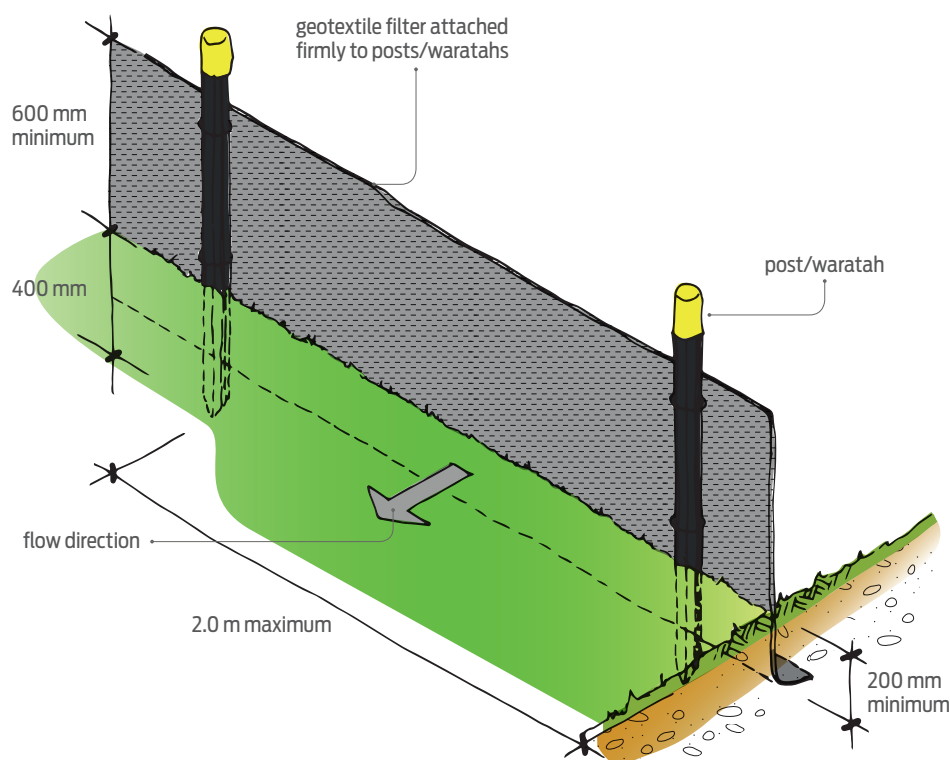

Figure 1. A silt fence reduces sediment run-off on sloping sites.
- silt fences on the downhill side of sloping sites to capture sediment run-off [Figure 1]